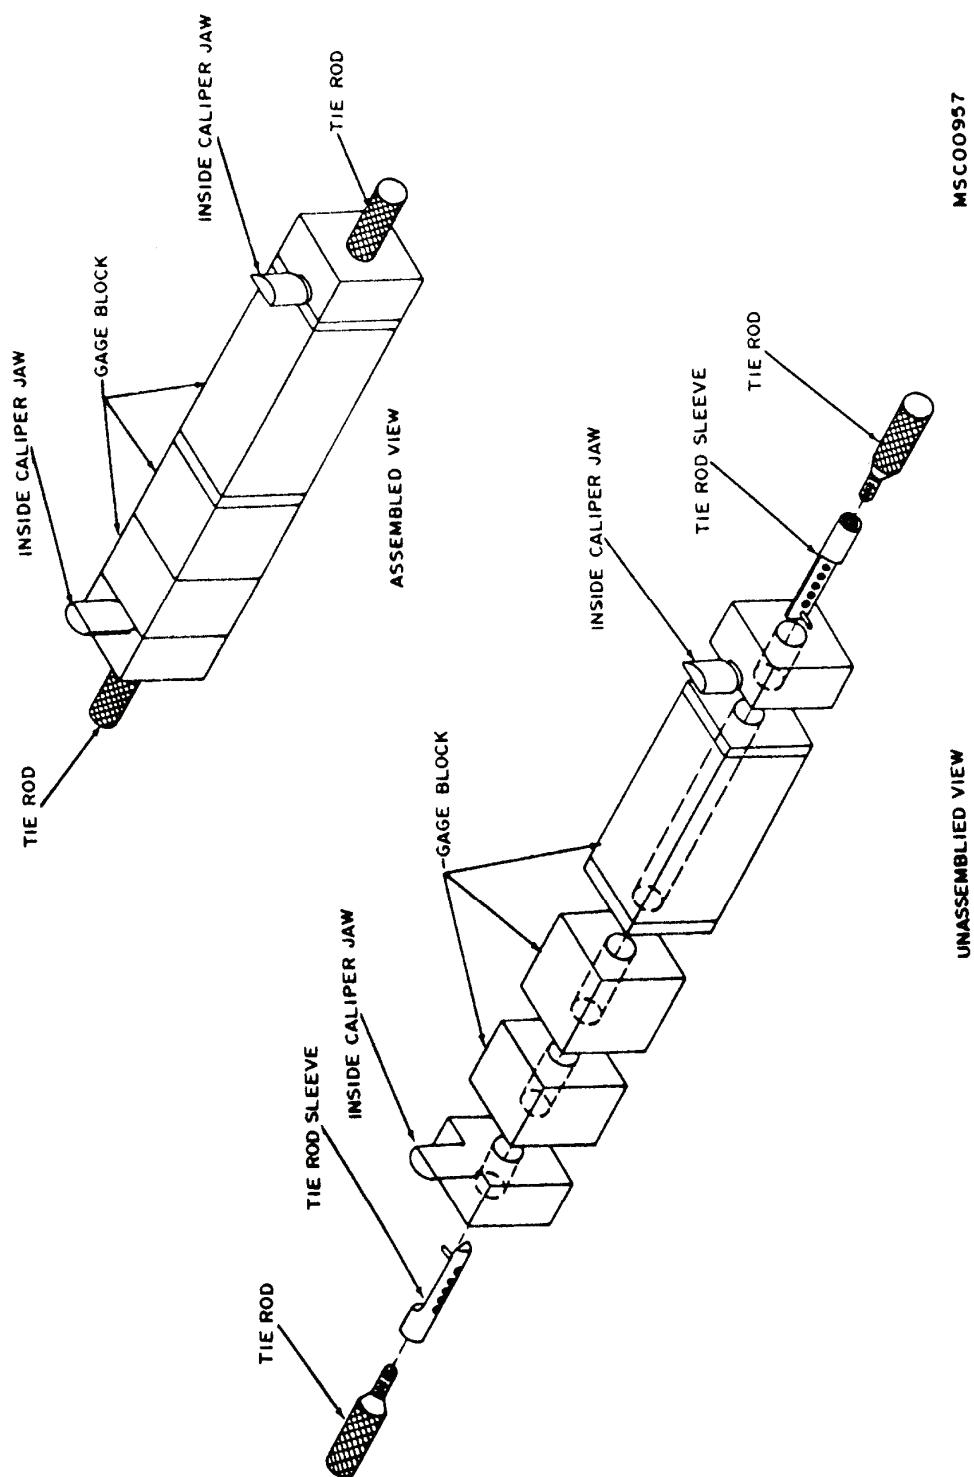

Figure 2. Block assembly.
(1) Use appropriate size gage blocks to check, low-range, mid-range, and full-range indications on TI "inside" scale.
(2) Assemble gage blocks as shown in figure 2 with an inside caliper jaw at each end, which serves as an end stop. Wring blocks together firmly before applying tie rods. Place nibs of TI jaws between inside caliper jaws of assembled gage block stack. If reading is not within  $\pm 0.001$  inch of total length of gage blocks for first 6 inches of beam and  $\pm 0.001$  inch for each additional 6 inches of the beam, perform **b** below.